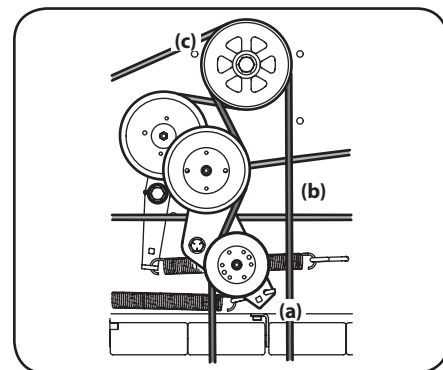

Figure 4-11
4. Using a $\frac{1}{2}$ " drive in the idler pulley bracket (a), turn the wrench towards the right of the tractor and slide the PTO belt (b) off the PTO pulley (c). See Figure 4-11.